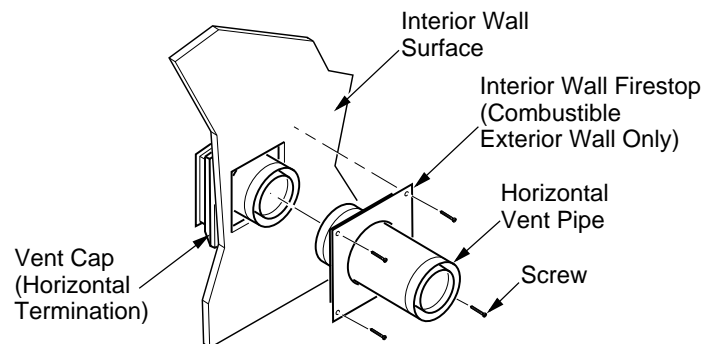

Figure 28 - Connecting Vent Cap with Horizontal Vent Pipe
- Combustible Exterior Wall Only:** Slide the wall firestop against the interior wall surface and attach with screws provided (see Figure 28).
- Combustible Exterior Wall Only:** Slide the interior wall firestop over the vent pipe before connecting the horizontal run to the vent cap (see Figure 28).